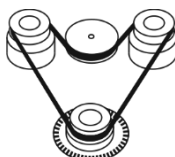

Figure 5. Rubber belt replacement
- Replace the rubber belt (fig. 5).